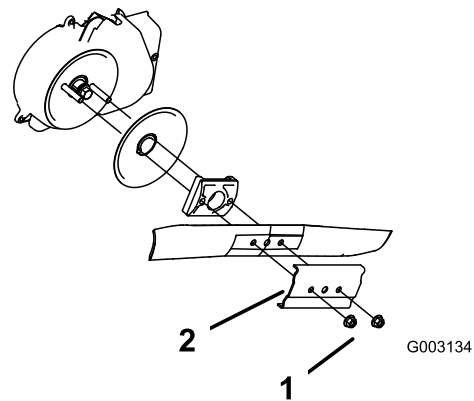

Figure 29
3. Remove the 2 blade nuts and the stiffener (Figure 29).
4. Remove the blade (Figure 29).
5. Install the new blade (Figure 29).